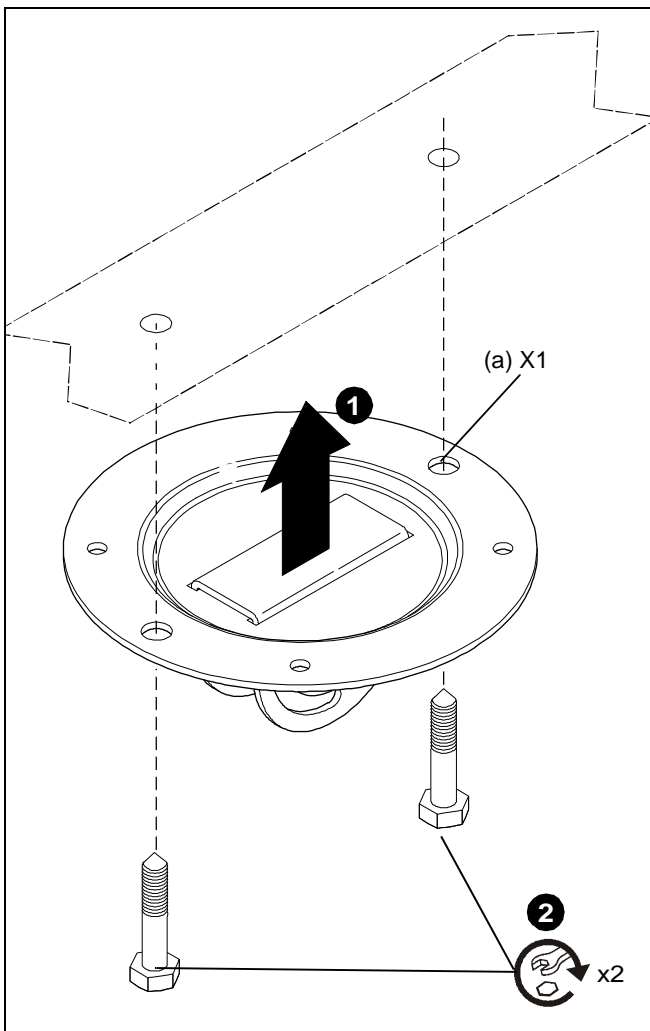

Figure 1
3. Place ceiling plate (A) against ceiling and align two large holes in ceiling plate (A) with studs. (See Figure 1)
4. Secure ceiling plate to ceiling using two 3/8" lag bolts. (3/8" Lag bolts required but not included) (See Figure 1)